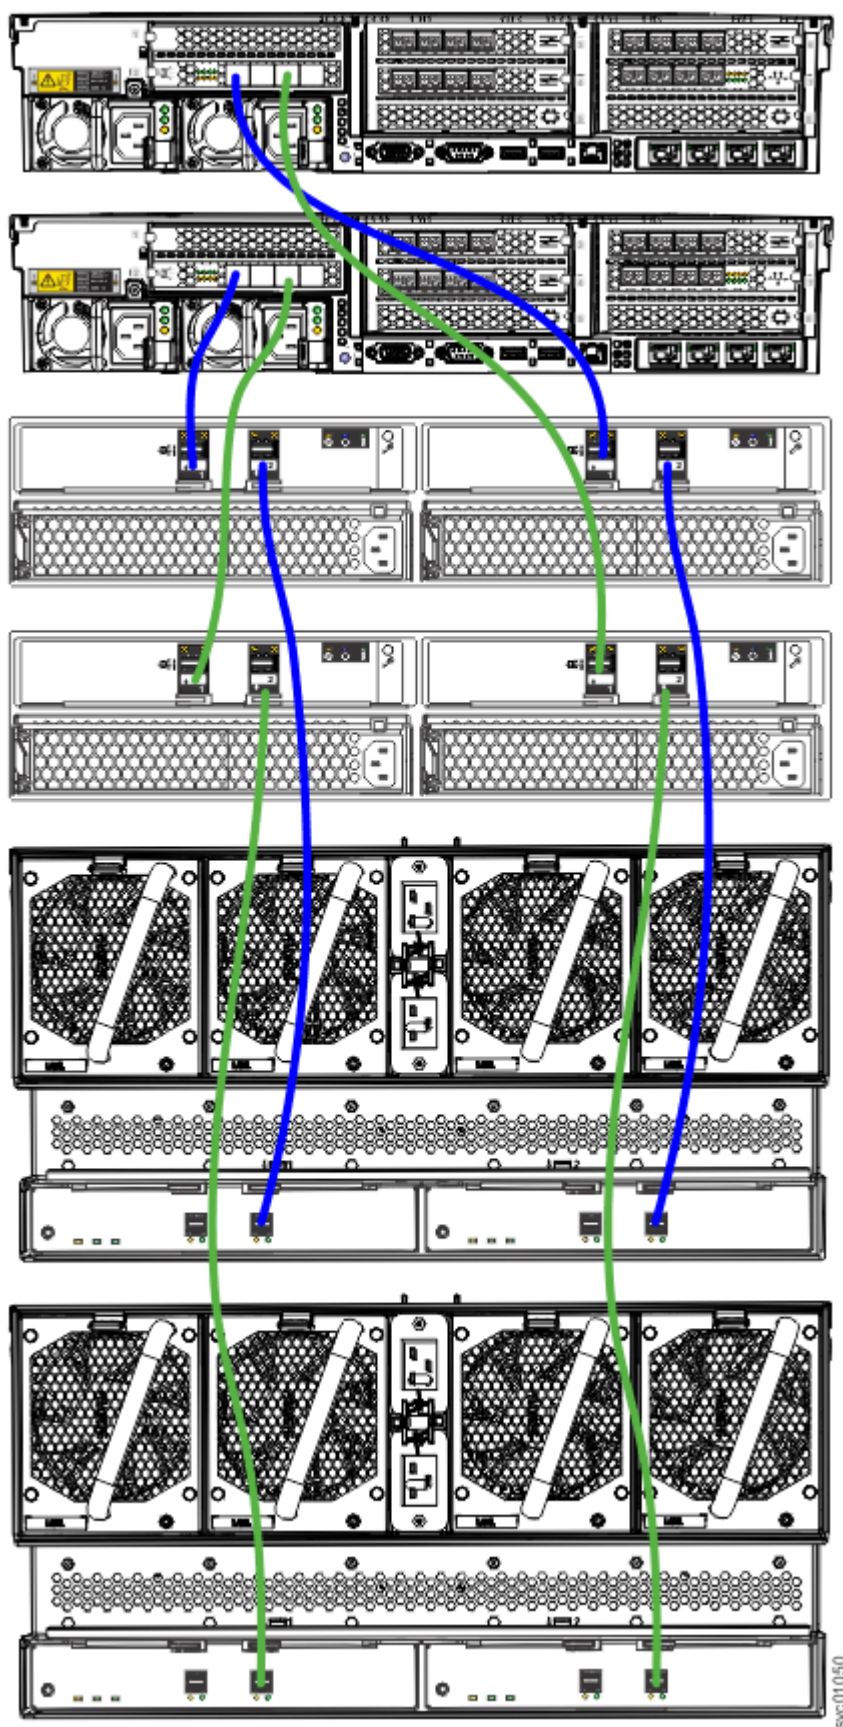

Figure 136. Connecting the SAS cables
1. Install the cables, as shown in Figure 136 on page 116.
Note: Figure 136 on page 116 is provided to show the cable connections between the SAS enclosures and each node enclosure. It does not imply or represent the precise racking order for the enclosures in a rack. However, due to its size and weight, always place the 5U expansion enclosure near the bottom of the rack.
As Figure 136 on page 116 shows, you can combine 2U expansion enclosures (12 drive and 24 drive) and 5U expansion enclosures in a SAS chain. The limiting factor is the combined *chain weight* of the various components. The maximum SAS chain weight that can be attached to a node SAS port is 10: